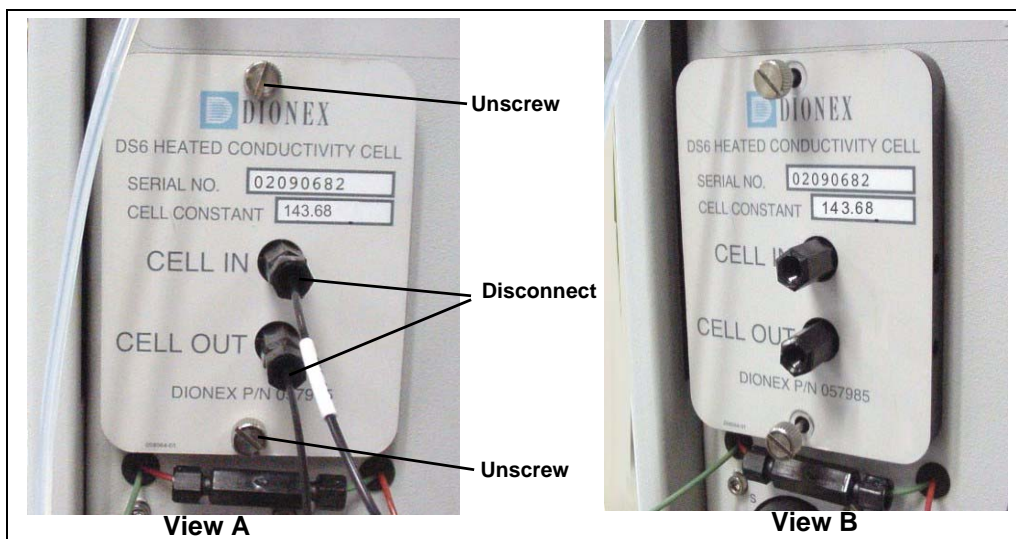

Figure 5-16. Removing the Cell Front Cover
2. Open the front door and disconnect the tubing from the **CELL IN** and **CELL OUT** fittings (see Figure 5-16, View A). Loosen the two screws on the cell front cover. The screws remain attached (see Figure 5-16, View B).